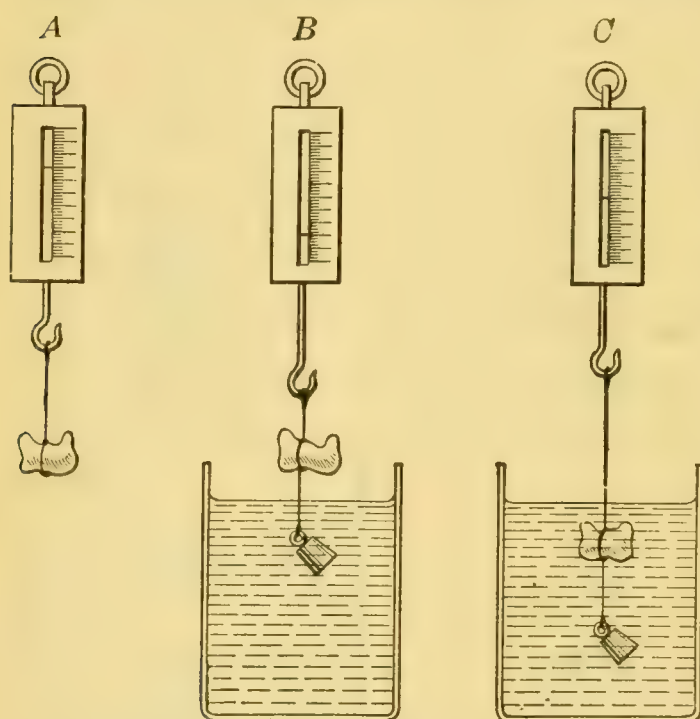

FIGURE 82. — SPECIFIC GRAVITY OF LIGHT SOLID.
floats in water. The sinker is usually a piece of metal and is heavy enough when attached to the bottom of the body to drag it beneath the surface of the water. These weighings are then made with a spring balance: (1) body in air (Figure 82, *A*); (2) body in air with attached sinker immersed in water (*B*);